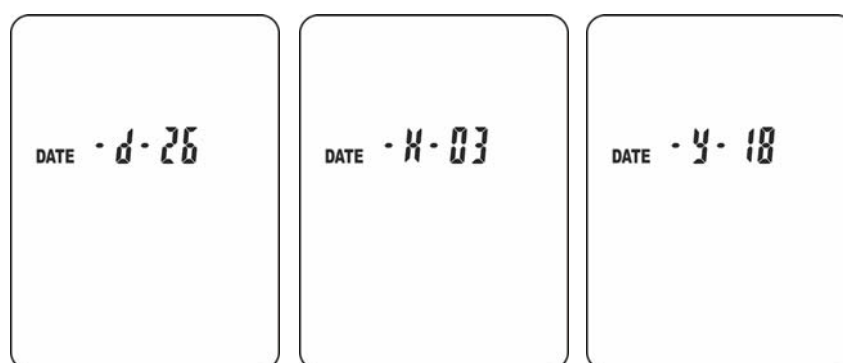

Fig. 4: System date setting
6. Press key **SET** to proceed and set the Date. The screen in Fig. 4 – left side appears on the display.
7. Press key **LEV** to set the Day and key **SET** to proceed (see Fig. 4 – middle).
8. Press key **LEV** to set the Month and key **SET** to proceed (see Fig. 4 – right side).